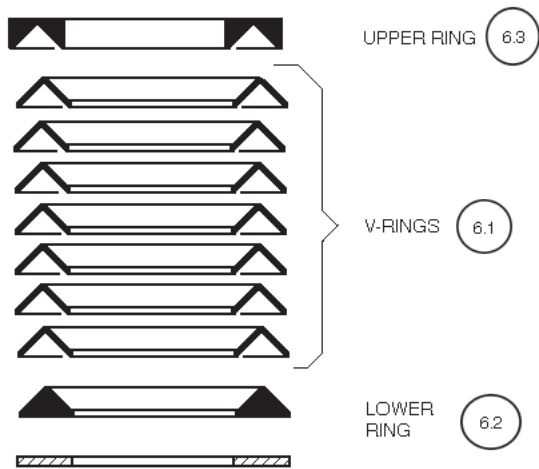

Figure 8: Packing Ring Set
16. Engage threaded, vented pipe plug (12) into the 1/8" NPT tap on the bonnet (2) if it was removed. If a lubricating oil is compatible with the fluid, a light coating will aid in preventing galling of the plug (12). Ensure that the tip of the notch on the threads is in the bonnet (2) at least 1-1/2 revolutions. **Do not** over-tighten to minimize chances of galling. **Do not** use thread sealing compound that might "fill in" the notch and negate the purpose of the notch.
17. The packing ring set (6) design is identical for all unit body sizes. It consists of seven V-rings (6.1) and one each male (6.2) and female (6.3) adapter. (See Figure 8.) The purpose of the packing rings (6) is to minimize moisture ingress, and to serve as a secondary stem seal in the event of bellows sub-assembly (8) failure. Carefully install rings (6) as indicated in Figure 8, one at a time, using a hollow tool to press the rings (6) to their final position. Take care in slipping the rings (6) over the threaded end of the stem (9) so as to not mar the ring's (6) internal surfaces. **Do not** reverse orientation for vacuum service. **Do not** "split" rings (6) for ease in replacement. **Do not** reuse removed packing rings (6).